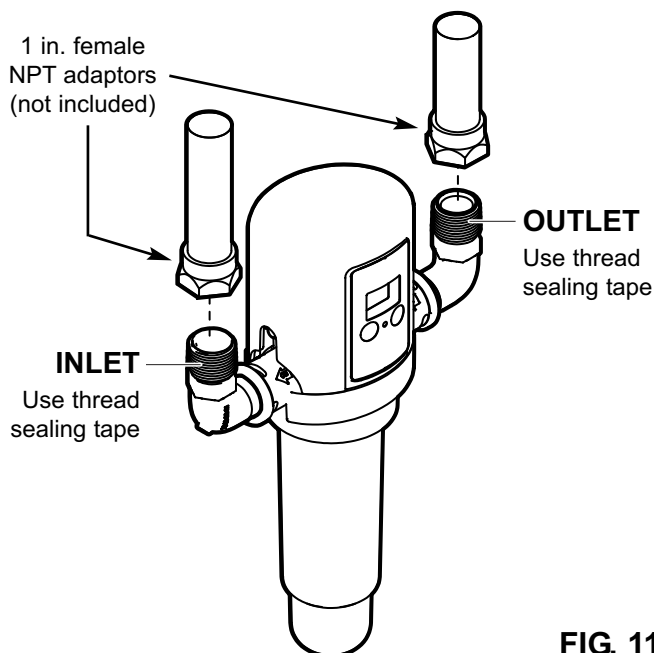

FIG. 11
1. Seal the inlet and outlet threads on the filter adaptors (See Figure 11) with several wraps of sealant tape.